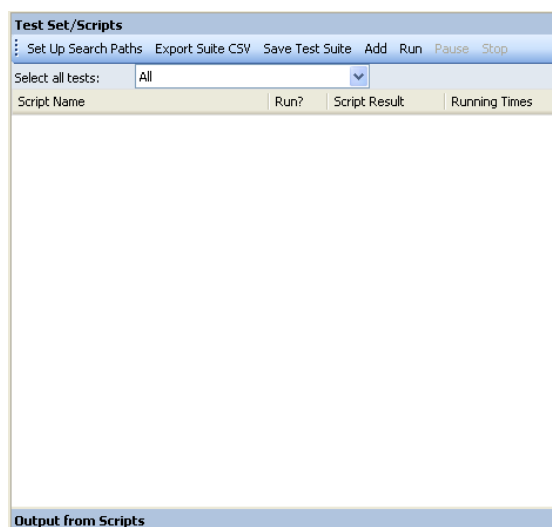

Figure 3-3. Selected Script
4. Search for and select the required Scripts (with file extension `.py`) or Test Sets (with file extension: `.tst` or `.tstx`) and click the Open button. The selected Script or Test Set appears in the Test Set/Scripts Area of the Script Server window as shown in Figure 3-3.
- Click the Run button as shown in Figure 3-3 to begin execution of the selected Script or Test Set. The following two lines are always the first to appear in the Output from Scripts Area of the Script Server window.